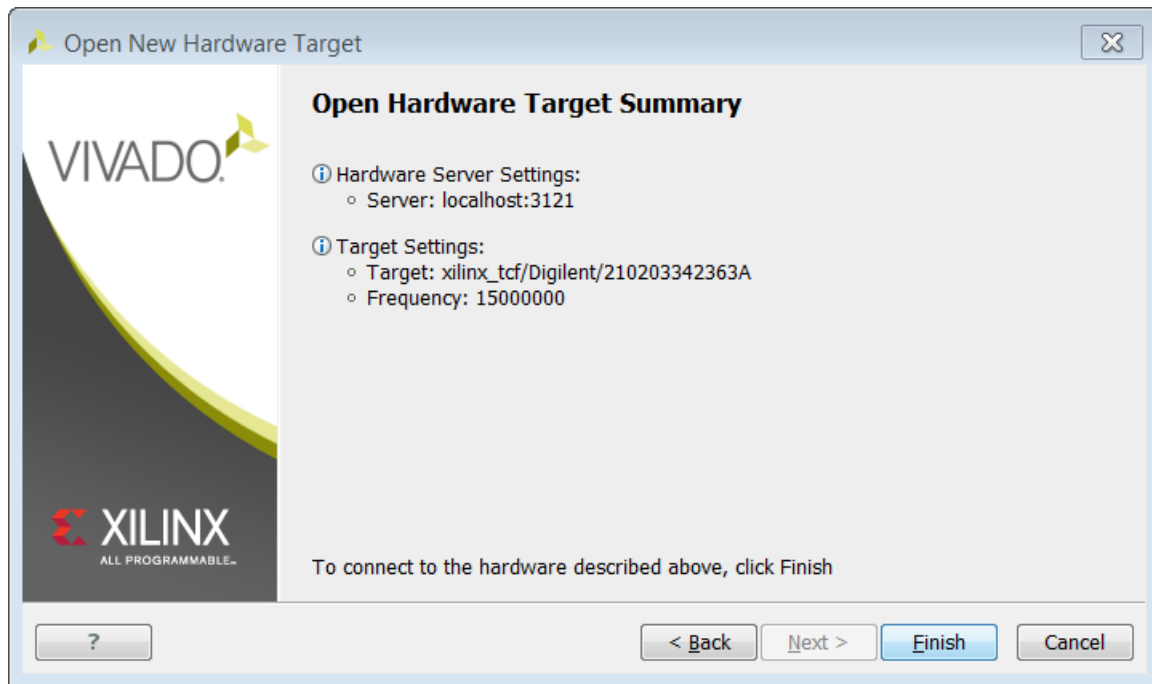

Figure 78: Open Hardware Target Summary
- Ensure that all the settings are correct on the **Open Hardware Target Summary** dialog box, as shown in Figure 78 and click **Finish**.